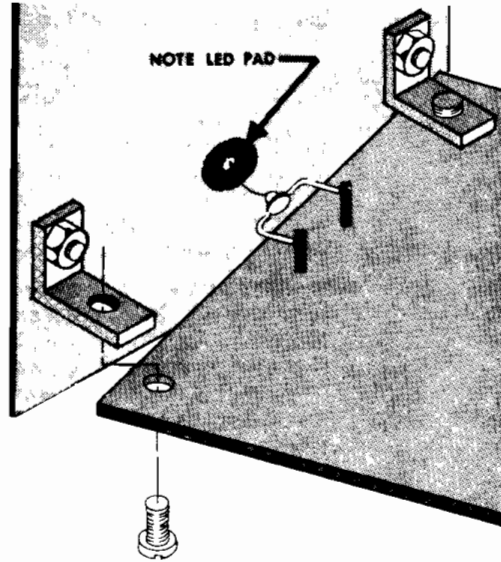

Figure 9
- ( ) An insulating "dot" has been supplied to prevent the leads of the Light Emitting Diode from shorting against the front panel. Remove this "dot" from its cardboard backing and apply to the rear of the front panel so that the hole in the dot is centered over the LED hole in the front panel. (see fig. 9)
- ( ) When mounting the circuit board to the front panel note that the dome front of the LED is designed to fit into the small hole in the front panel. To most easily accomplish this, "cock" the circuit board in relation to the front panel and pass one 4-40 screw through the circuit board into the threaded hole in the "L" bracket as shown in figure 9. DO NOT COMPLETELY TIGHTEN THIS SCREW.